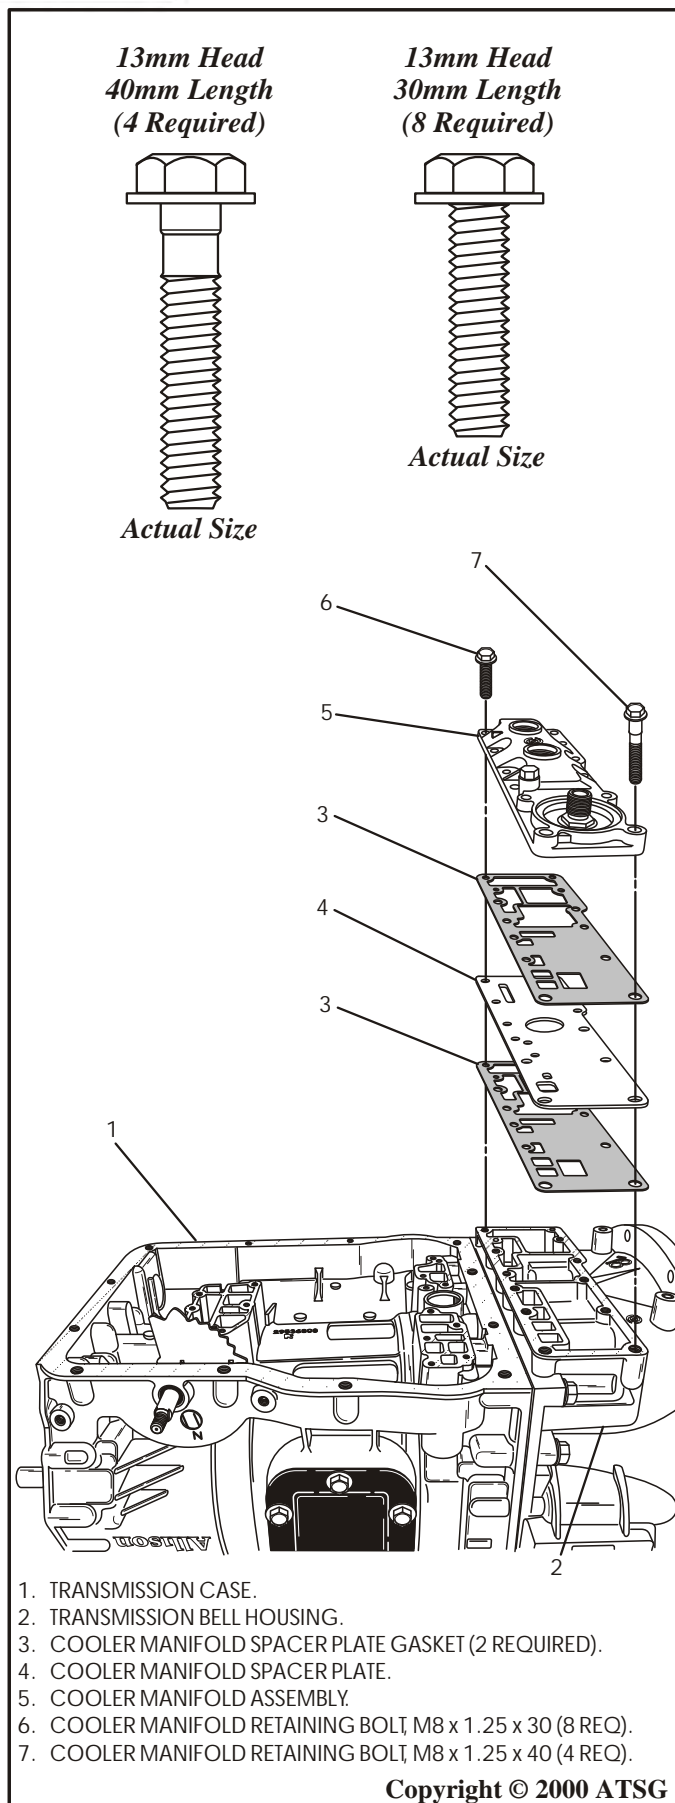

Figure 169
51. Install cooler manifold assembly onto the bell housing, if used, using 2 new cooler manifold gaskets with spacer plate (See Figure 169).
52. Install the four long bolts in holes around the external filter, as shown in Figure 169, and the the eight short bolts in the remaining holes.